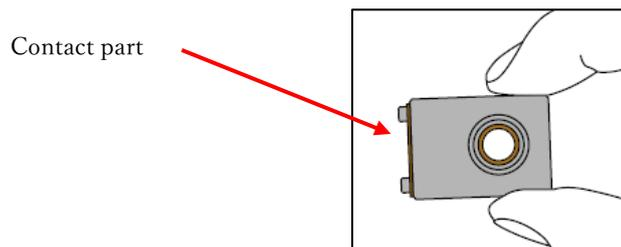

Figure 2 How to hold Rotating contact
**【Caution 1】** When you hold Rotating contact, pinch it with two fingers and never contact the center contact part as shown in Figure 2. Never drop it or gives a shock.
First, hold the rotating contact, with its metal top facing toward you as Figure 2 , while the cable being on your right side. Then put the driven shaft through the center hole.